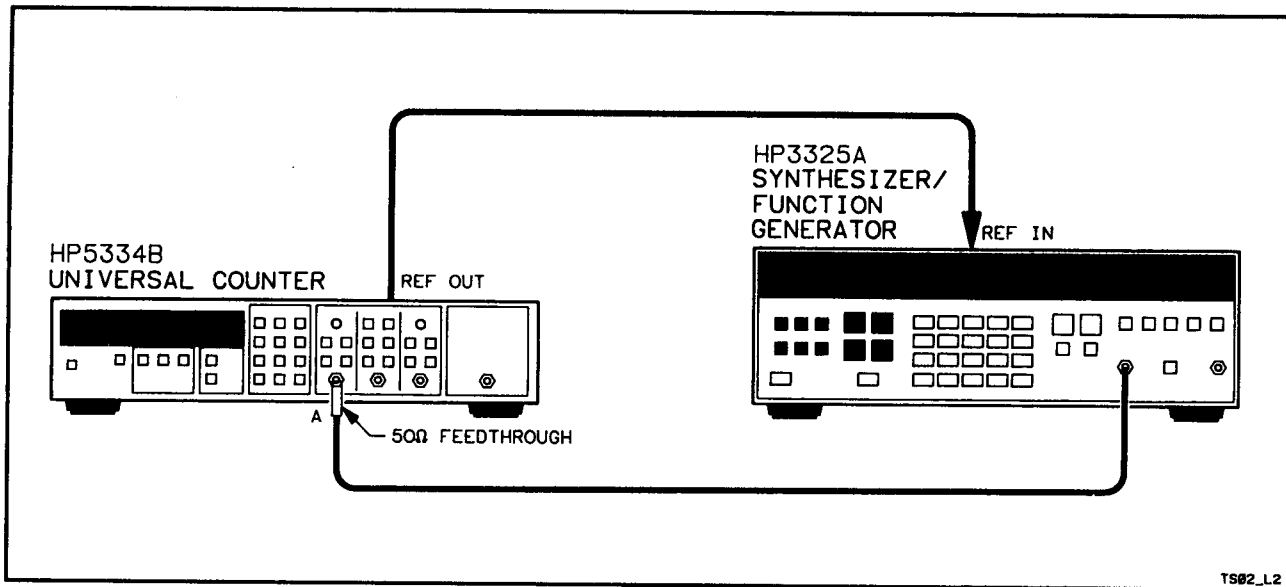

Figure 4-2. Channel A Frequency and Sensitivity Setup,
3. Connect the function generator signal to the HP 5334B Input A using a 50Ω feedthrough connector as shown in *Figure 4-2*.